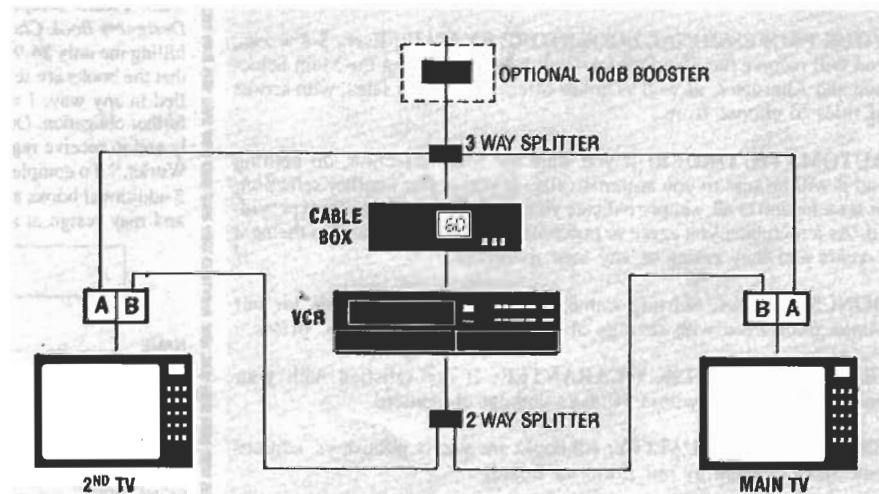

FIG. 4—THIS SETUP USES TWO A/B SWITCHES to provide more viewing options.
- Figure 4 uses two A/B switches. You can watch either the VCR or cable box on channel 3, or unscrambled channels using your cable-ready TV tuner. If you add an IR remote extender as described and featured in the May, 1989 issue of **Radio-Electronics**, the second TV can be anywhere in the house.